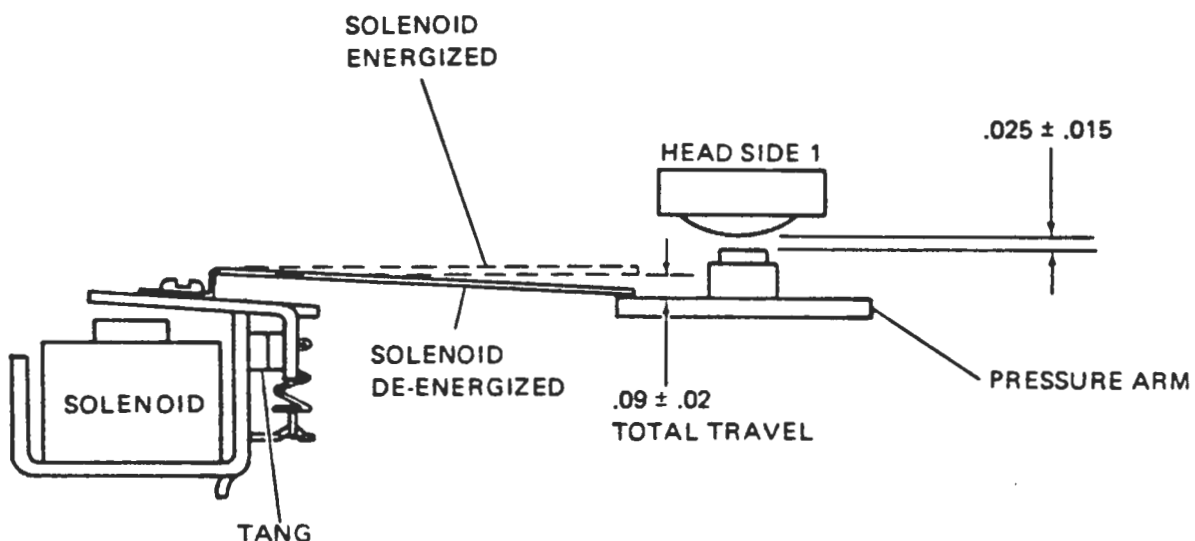

Figure 6-9 Head Load Check and Adjustment (Side 1)
- f. If solenoid paddle displacement is incorrect adjust the tang adjacent to the solenoid return spring. (Figure 6-9)